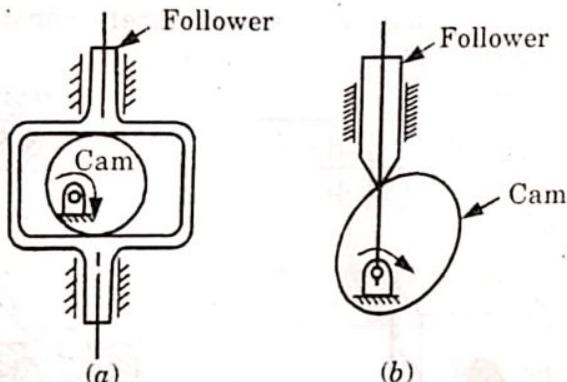

Fig. 1.3.3.
- a. Self Closed Pair (Closed Pair) :** When the elements of a pair are held together mechanically, it is known as a closed pair [Fig. 1.3.3(a)]. The lower pairs are self closed pairs.
- b. Force Closed Pair (Unclosed Pair) :** When the two links of a pair are in contact either due to force of gravity or some spring action, they constitute an unclosed pair [Fig. 1.3.3(b)].